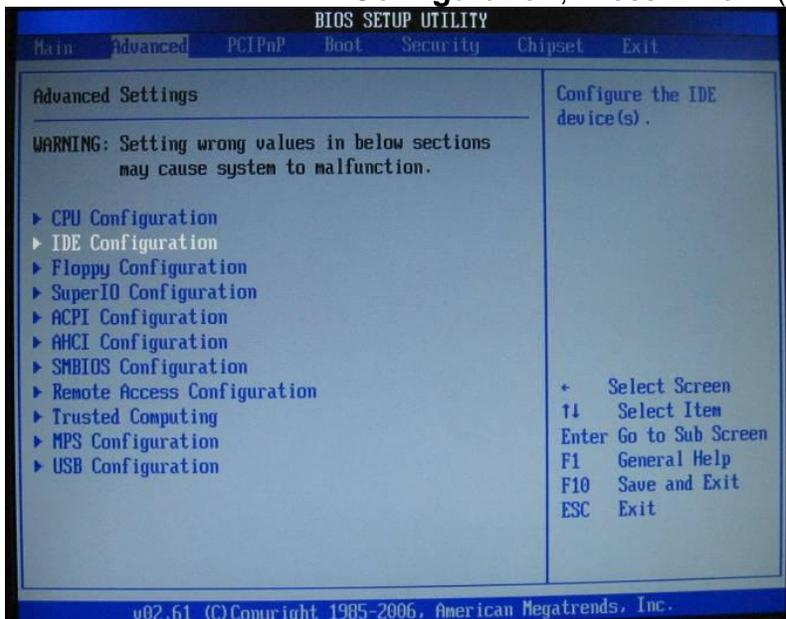

Figure 8-14 IDE Configuration
- On **Advanced BIOS** screen Scroll down to **IDE Configuration**, Press **Enter**. (Figure 8-14).